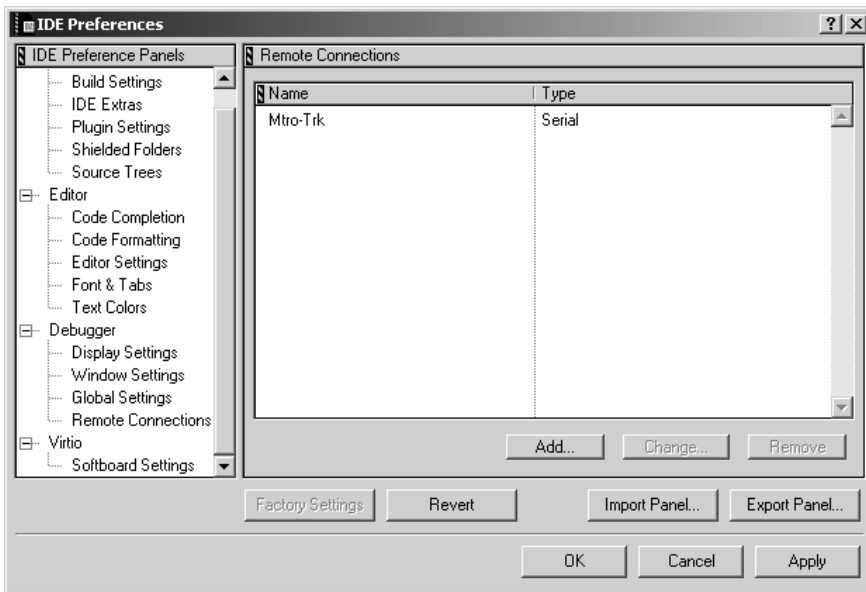

FIGURE 20 The IDE Preferences dialog box.
1. Select Preferences from the Edit menu. The IDE Preferences dialog appears (Figure 20). Press the Add button to add (create) a new connection.